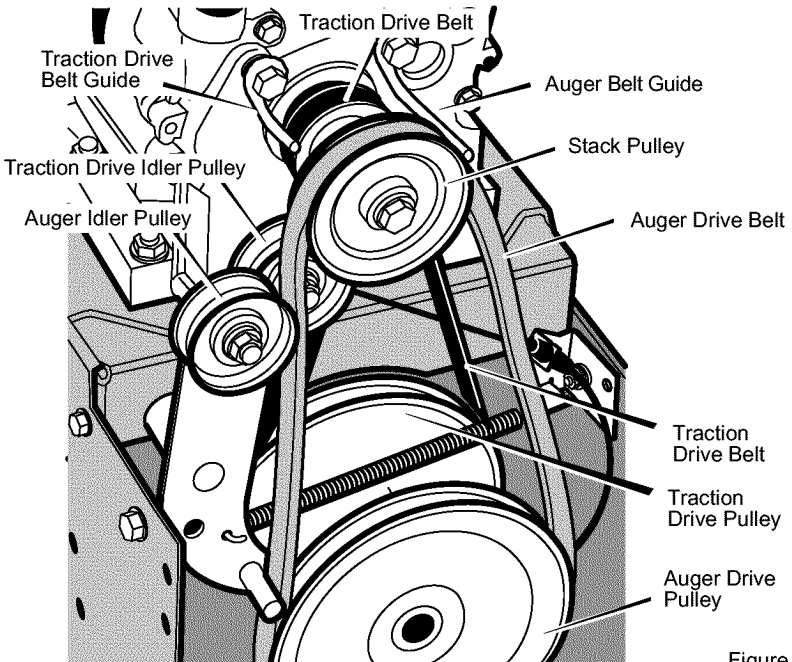

Figure 39
4. Loosen nut on traction idler pulley and move traction idler pulley towards belt about 1/8 inch (3 mm) (see Figure 39).
3. Loosen nut on auger idler pulley and move auger idler pulley towards belt about 1/8 inch (3 mm) (see Figure 39).
5. Loosen the **auger belt guide**. Pull the **auger belt guide** away from the **auger drive pulley** (see Figure 39).
4. Loosen the nut on the **drive idler pulley** (see Figure 39). Move the **pulley** the maximum distance away from the **traction drive belt** and then tighten the nut on the **pulley**.